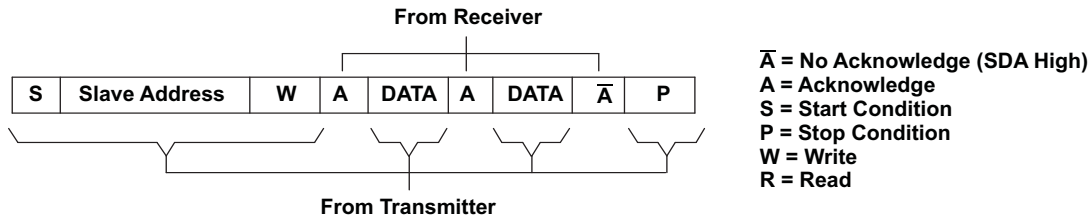
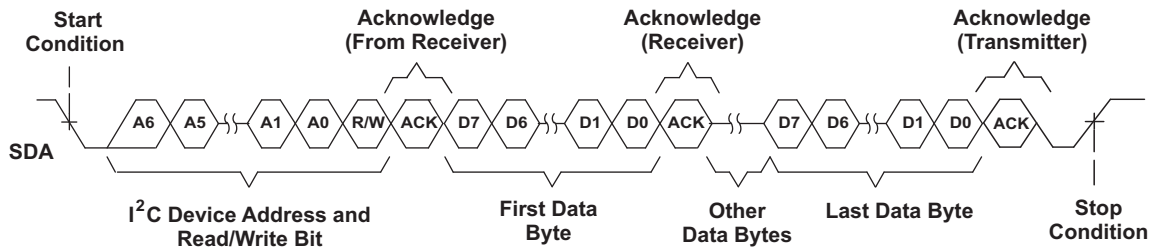
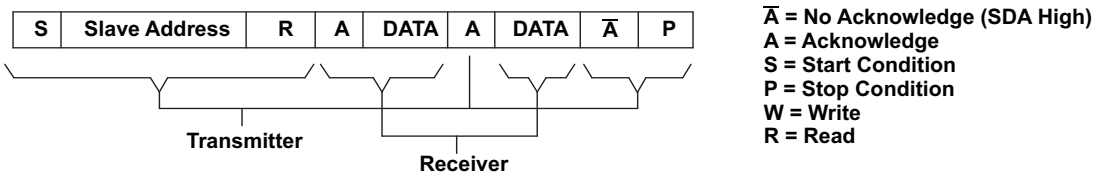
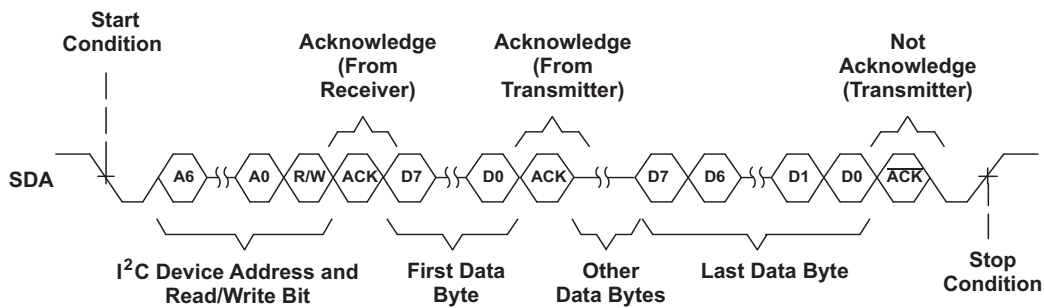

Figure 75. I²C Write Cycle
Figure 76. Multiple Byte Write Transfer
Figure 77. I²C Read Cycle
Figure 78. Multiple Byte Read Transfer
During a write cycle, the transmitting device must not drive the SDA signal line during the acknowledge cycle, so that the receiving device may drive the SDA signal low. After each byte transfer following the address byte, the receiving device pulls the SDA line low for one SCL clock cycle. A stop condition is initiated by the transmitting device after the last byte is transferred. An example of a write cycle can be found in Figure 75 and Figure 76. Note that the THS7303 does not allow multiple write transfers to occur. See the Example: Writing to the THS7303 section for the proper procedure on writing to the THS7303.
During a read cycle, the slave receiver acknowledges the initial address byte if it decodes the address as its address. Following this initial acknowledge by the slave, the master device becomes a receiver and acknowledges data bytes sent by the slave. When the master has received all of the requested data bytes from the slave, the not acknowledge (A) condition is initiated by the master by keeping the SDA signal high just before it asserts the stop condition. This sequence terminates a read cycle, as shown in Figure 77 and Figure 78. Note that the THS7303 does not allow multiple read transfers to occur. See the *Example: Reading from the THS7303* section for the proper procedure on reading from the THS7303.
The THS7303 operates using only a single-byte transfer protocol similar to Figure 75 and Figure 77. The internal sub-address registers, and the functionality of each, are found in Table 2. When writing to the device, it is required to send one byte of data to the corresponding internal sub-address. If control of all three channels is desired, then the master must cycle through all the sub-addresses (channels) one at a time; see the Example: Writing to the THS7303 section for the proper procedure of writing to the THS7303.